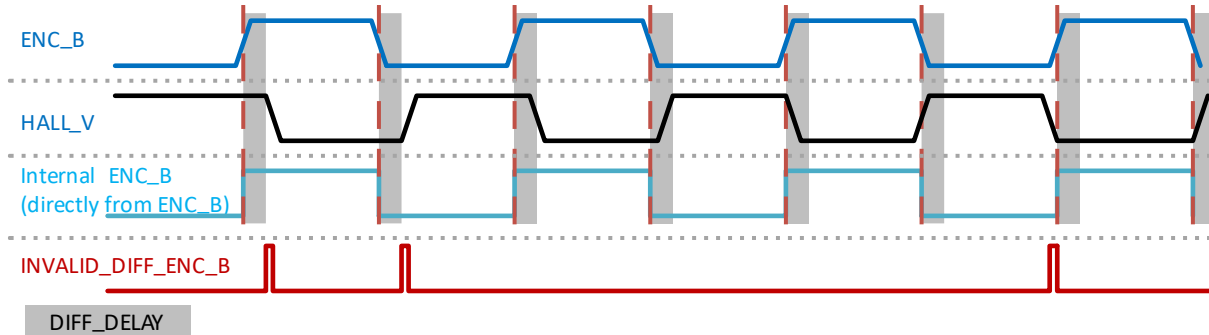

Figure 27. Digital Differential ABN Encoder Monitoring, Example for ENC_B vs. HALL_V Pins, DIFF_DELAY is Active after ENC_B Switches.
- Digital differential ABN encoder monitoring only, represented in Figure 27.